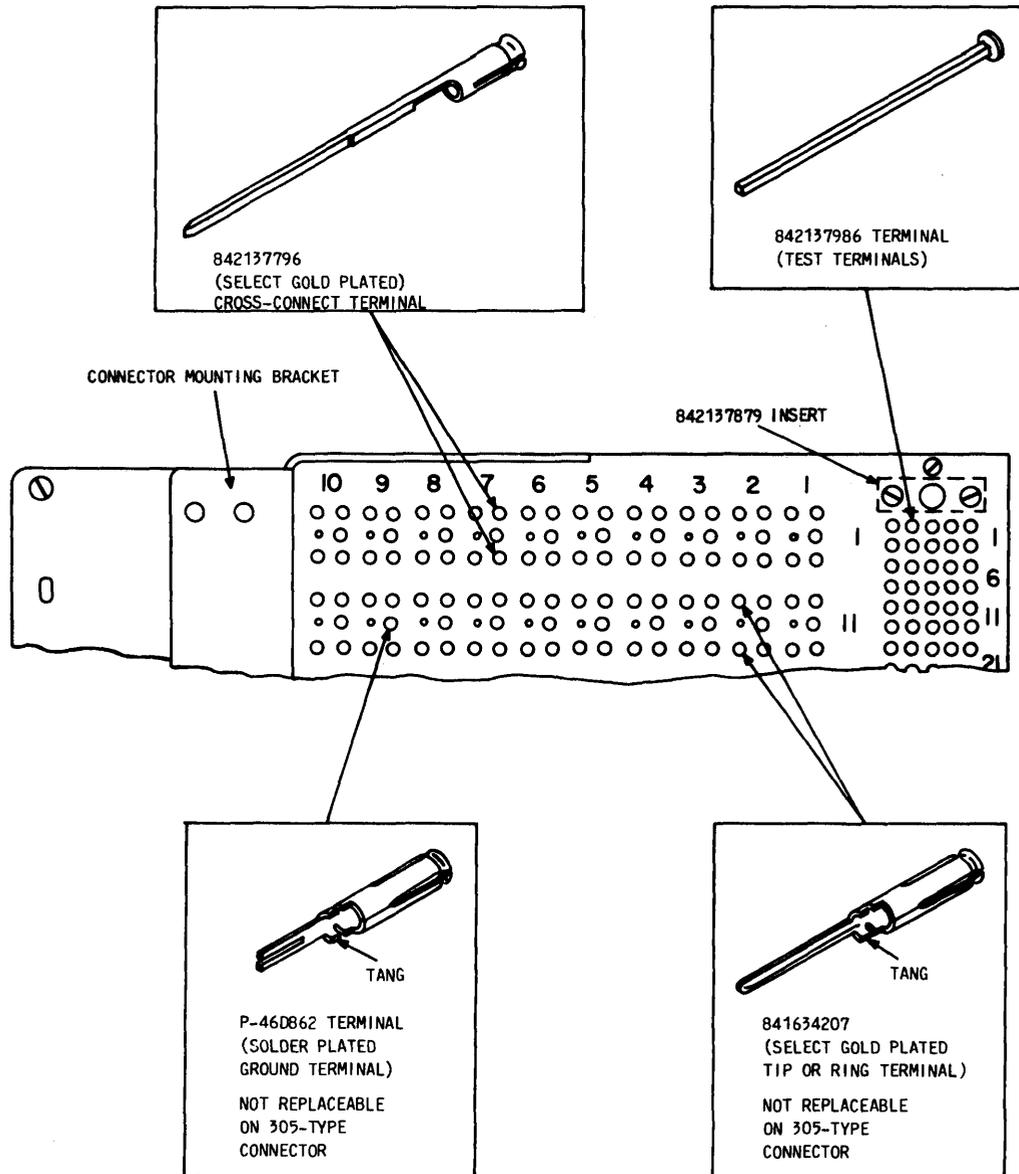

Fig. 2—305-Type Connector, Left Side
- (1) From the front and rear of the connector, tag and remove all leads from the terminal to be replaced.
- (2) If the wire is soldered, remove all solder from the terminal.
- (3) Using B long-nose pliers or the 658B terminal extractor, carefully remove the terminal from the front of the connector panel. Refer to Section 201-220-801 for use of 658B terminal extractor.
4.05 842137796 Terminal (Fig. 2)
4.08 P-46D862 Terminal (Fig. 2)
- (1) From the front side of the connector, insert the new terminal into the same hole from which the old terminal was removed using the B long-nose pliers or the KS-16748 inserter. Instructions for use of the KS-16748 inserter are given in Section 201-220-801.
- (2) Reconnect all leads to the P-21E489 terminal.
4.11 842137796 Terminal (Fig. 2)